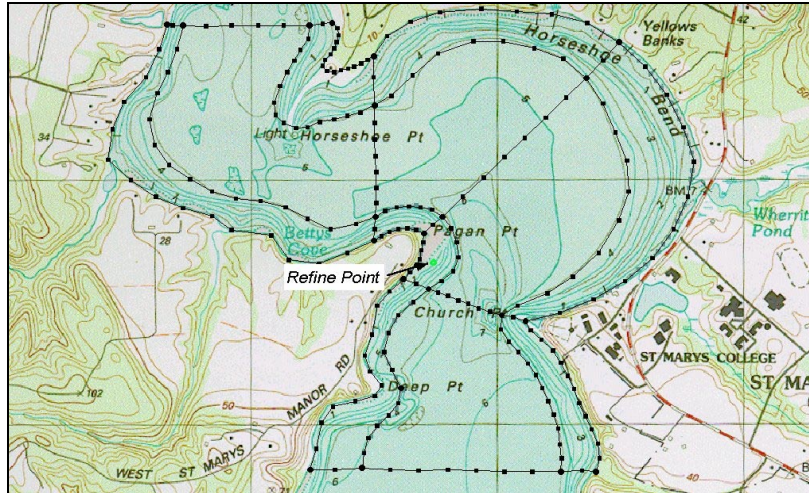

Figure 2-8 The location of the refine point.
2. Double-click on the point inside the left polygon, labeled in Figure 2-8.